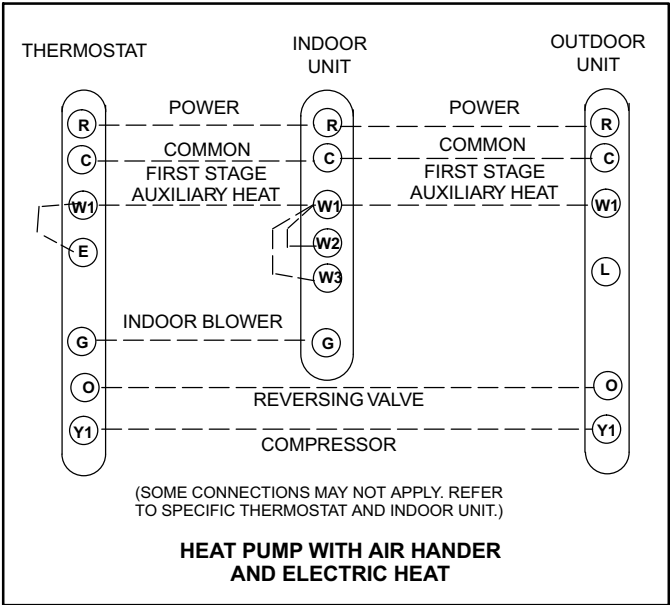

Figure 12. Typical Low Voltage Connections
Figure 12 illustrates typical outdoor unit wiring diagrams for the 13HPD heat pumps.
NOTE - Units are approved for use only with copper conductors. 24V, Class II circuit connections are made in the low voltage junction box (see figure 12).
4. Install low voltage wiring from outdoor to indoor unit and from thermostat to indoor unit (see figure 12).